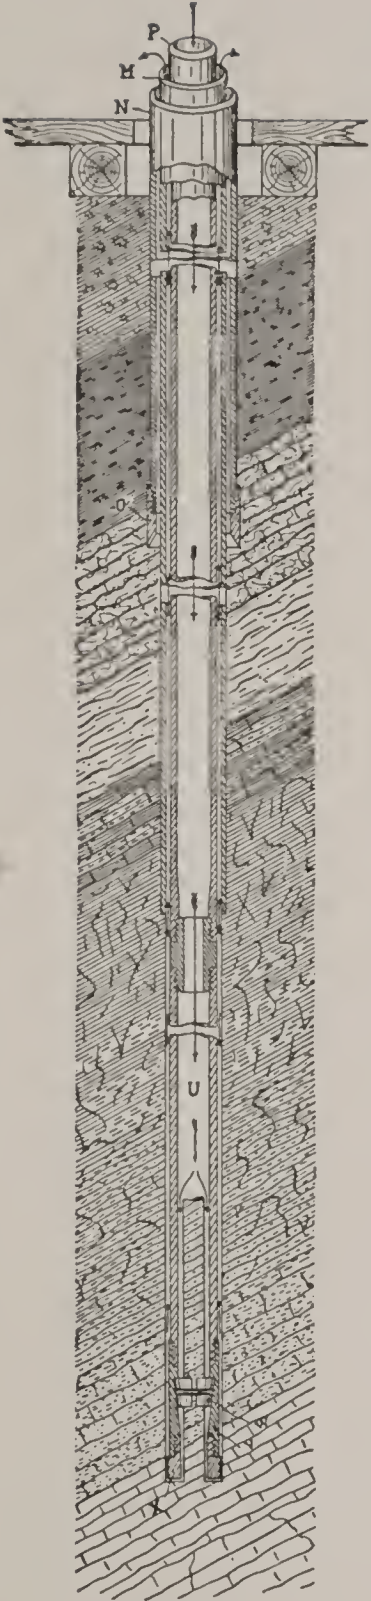

Fig. 25.
to the surface. These tools are also shown in their relative positions in Fig. 25, page 72. The bit first penetrates the rock. It is set, on its lowest face and inner and outer edges, with the small pieces of "black diamond" or carbon. This is a form of pure carbon, as hard as the brilliant, but of a dark gray or reddish black color, opaque and not crystalline. Stones of one to three karats weight are used in ordinary drilling, varying according to the size of the bit.
Core-Lifter. As the bit is rotated and fed forward, the diamonds chip and grind away the rock in an annular hole, leaving untouched in the center a cylindrical "core." The bit passes down over this core followed by the core-shell and core-barrel. The latter is a smooth-bored tube in which the core is enclosed. The *Core-Lifter*, Figs. 25, 34 and 35, is placed in the shell, in the position shown. The construction of the core-lifter allows it to move down over the core; but when the rods are raised, it grips the core, holds it firmly, and as the rods rise, breaks it off.
Each size of stand-pipe and casing comes to the surface, where there are thus always several sizes of pipe, concentric as shown in Fig. 25. Pipe being lowered within larger pipe is held, as each joint is made at the surface by a *Pipe Clamp* shown in Fig. 32. Fig. 25, page 72, shows drive pipe (N), drive shoe (O), casing pipe (M) and drill rod (P); core-shell (V), core-lifter (W), and bit (X) in position around a piece of core in the bottom of a drill hole. Casing may be of ordinary pipe, but this is difficult to pull out on account of the couplings.